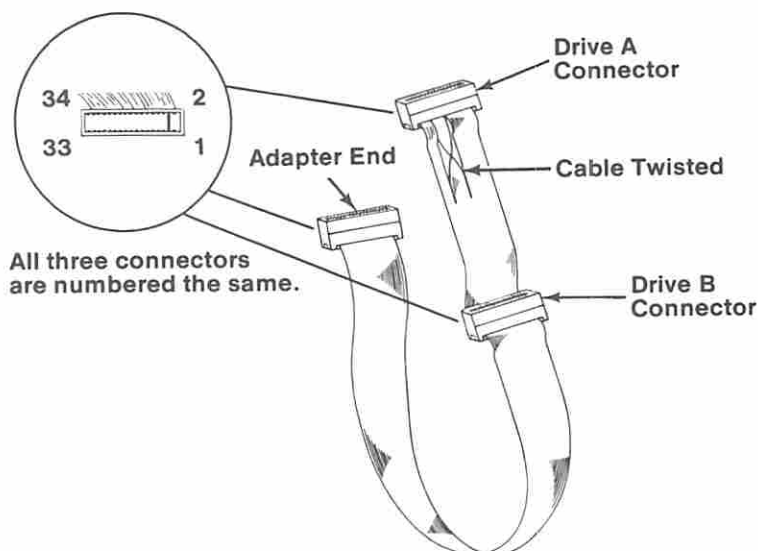

Figure 14. Signal Cable
- Refer to Figure 14 for the test points on the signal cable.